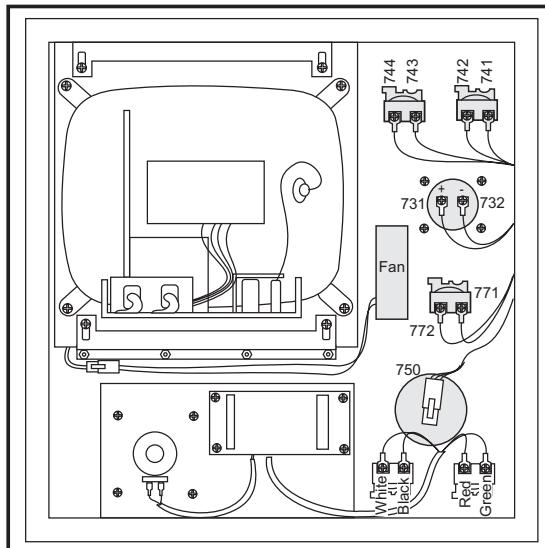

Figure 4.5-1. Interior of control panel (rear).
7. Replace by sliding the new assembly onto the eight bolts (four each on top and bottom). Starting with the bottom right, place the washers and hex nuts on the bolts to hold in place. Refer to Fig. 4.5-1. Once all washers have been attached and nuts have been hand-tightened, tighten down completely with the socket.
3. Disconnect all leads to the switch's connectors. Ensure all leads are properly marked for reconnecting later. Refer to Fig. 4.5-1 for proper locations.